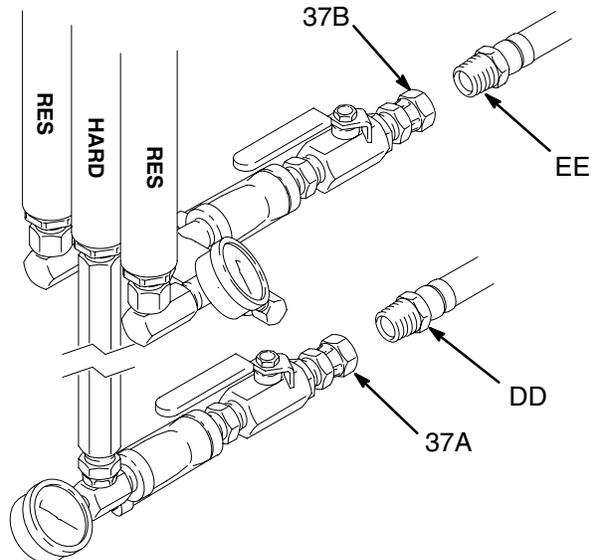

Fig. 7
1. Connect the resin supply hose (EE) to the 3/4 npt swivel inlet (37B) for the resin displacement pumps. See Fig. 7.
2. Connect the hardener supply hose (DD) to the 3/4 npt swivel inlet (37) for the center (hardener) displacement pump. See Fig. 7.